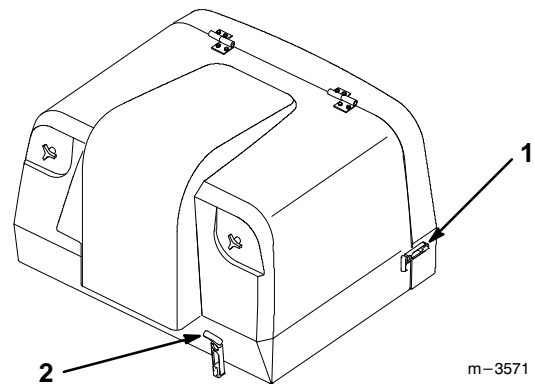

Figure 17
1. To adjust, remove hairpin cotter and clevis pin from mower hanger bracket (Fig. 17).
2. Select hole in mower hanger bracket corresponding to the height-of-cut desired. Lift on side and front handles to align holes and insert clevis pin (Fig. 17).
3. Secure clevis pin with hairpin cotter (Fig. 17).
3. Unhook the door latches on the rear sides and the hopper latch on the front left side of the hopper (Fig. 17).
4. Lift up on the hopper at the lower front and dump the clippings (Fig. 17).
5. Lower the hopper and secure the door latches on the rear sides and the hopper latch on the front left side of the hopper (Fig. 17).